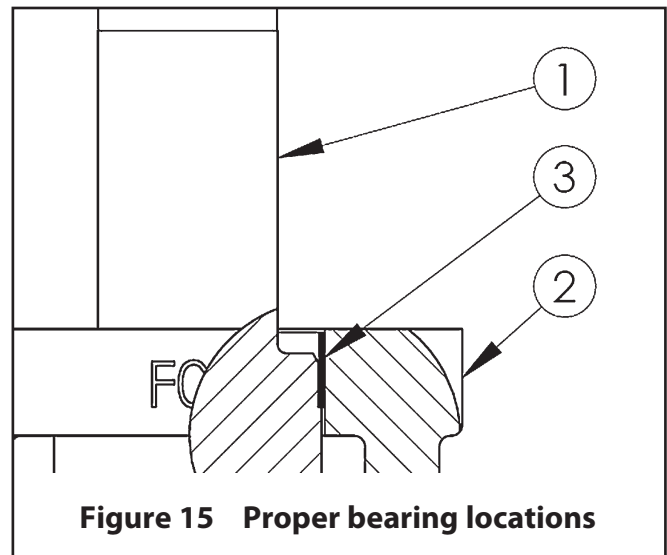

Figure 15 Proper bearing locations
6. Press the coupling (1) upward until the bearing (3) sits flush on the bearing shoulder of the coupling (1) and is flush with the top flange of the bracket (2). (See Figure 15)